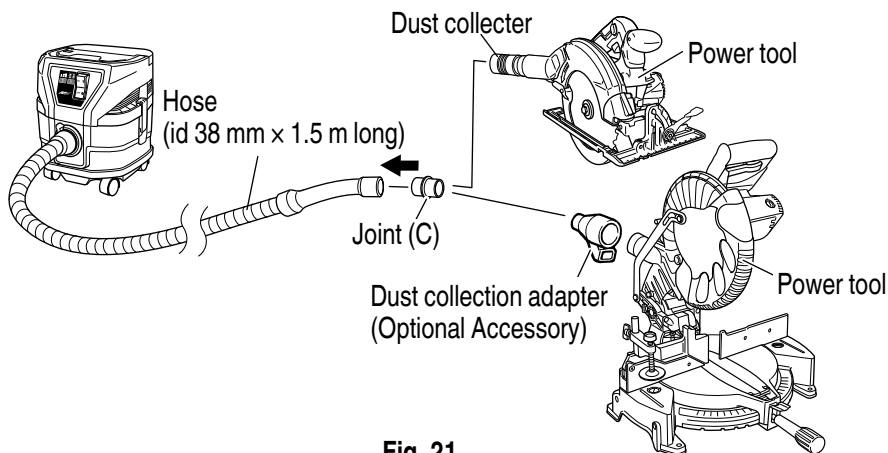

Fig. 21
Connect in order of Hose (id 38 mm × 1.5 m long) and Joint (C) (Optional Accessory). Connection is done by pressing in the direction of the arrow. (see Fig. 21)